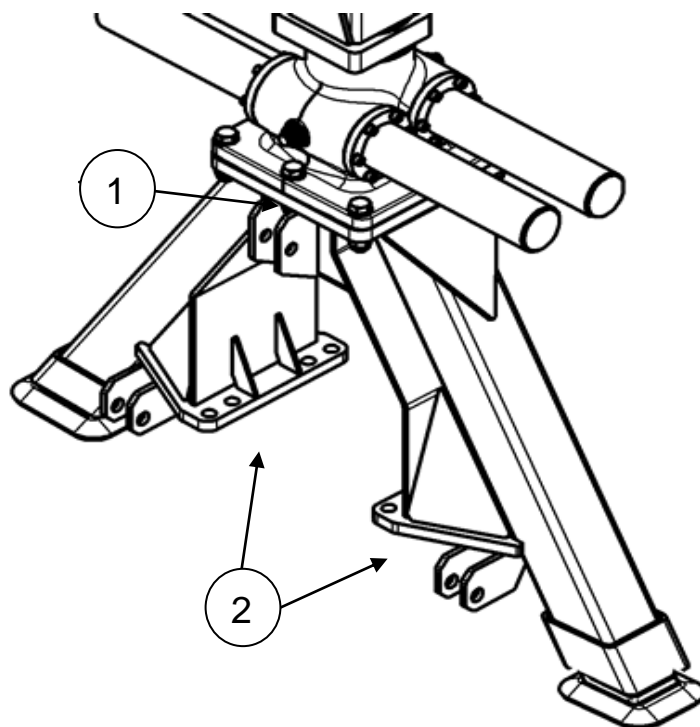

Figure 5. Connection junctions on Palms 530 A-type support legs (B3)
Mounting of forest crane should be performed at the dealer service center or by person authorized by the manufacturer or dealer. Mounting/detaching the crane can also be made by end user, if professional equipment is used, all safety regulations are followed and at least one qualified mechanic is present during all the mounting/detaching process. Strength class for mounting bolts of slewing device-support legs (pos. 1, fig.5) and support legs-trailer (pos. 2, fig. 5) has to be 12.9 (DIN912). Use self-locking nuts M24. The tightening torque for the mounting bolts of the crane (pos. 1, fig. 5) and supporting legs (pos. 2, fig. 5) is 1220 Nm.